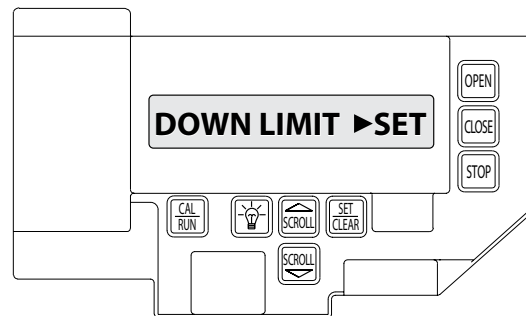

FIG. 6
7. Press SET/CLR to switch display to "DOWN LIMIT SET". FIG. 6